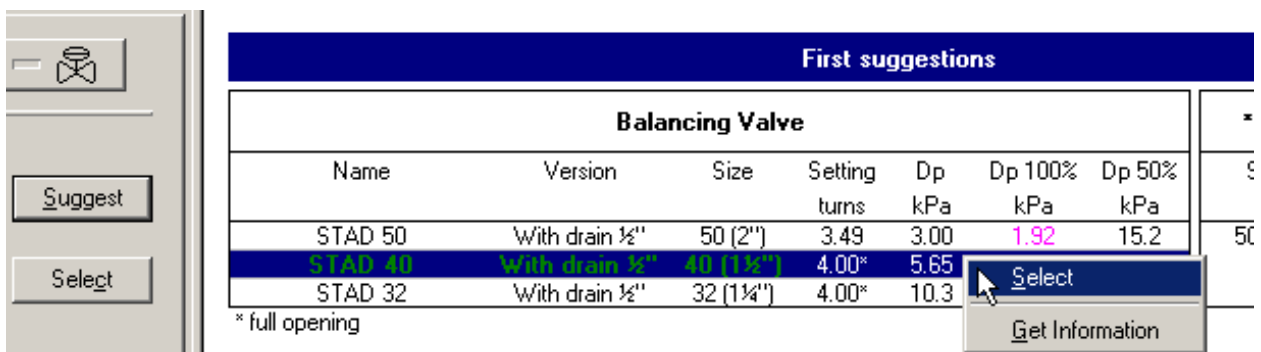

Figure 5.3: Selection of an element of the suggestion list through its floating menu.
- The element can be right clicked and the **Select** option chosen (see Figure 5.3).